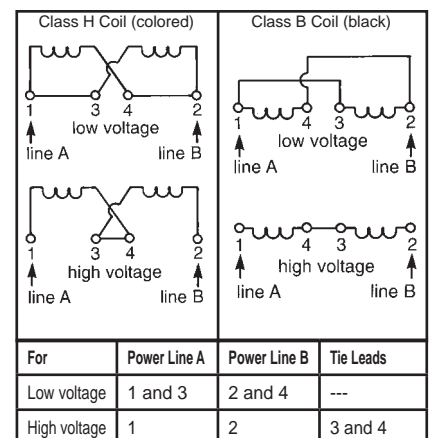

Figure 2
- On single voltage coils, connect coil to any two leads on three-phase motors of the same voltage as the brake. Refer to brake nameplate and coil number for correct voltage and frequency. See Figure 2 for dual voltage coil connection and connect to any two leads of three-phase motor of the same voltage. The brake can also be wired to external switch contacts providing proper voltage other than that used to control the motor. Normally, the motor and brake contacts are interlocked.